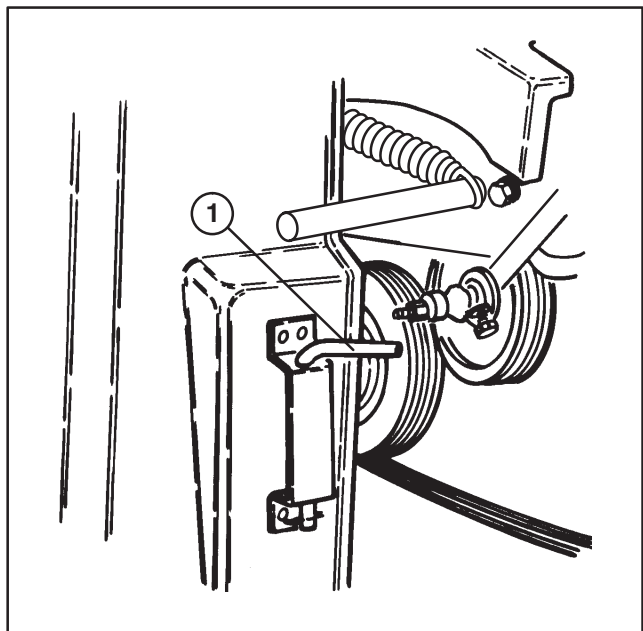

Figure 19
- B. Remove override pin from storage bracket on front of coring head cover (Fig. 19).
- 1. Remove override pin from storage bracket on front of coring head cover (Fig. 19).